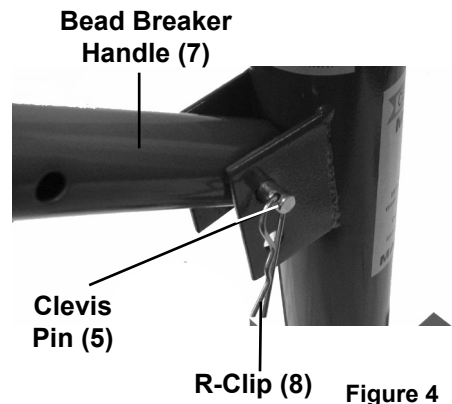

Figure 4
12. Place the end of the Bead Breaker Handle (7) in the bracket on the side of the Center Post until the hole on the Handle's end aligns with top or bottom holes of the bracket (depending on the size of the tire.)
13. Slide a Clevis Pin (5) through the bracket and Bead Breaker Handle, securing it using the R-Clip (8). See Figure 4, below.